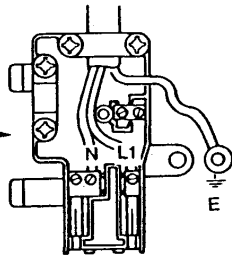

Fig. 24
4. Remove the rear cable grip and connect the supply cable (Fig. 24) as follows: